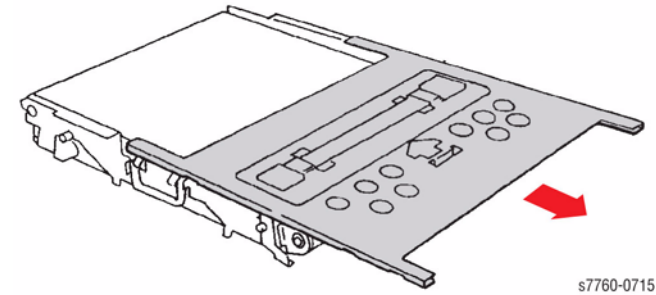

Figure 2 Removing Handle
4. Slide the Left Handle out to remove it (Figure 2).